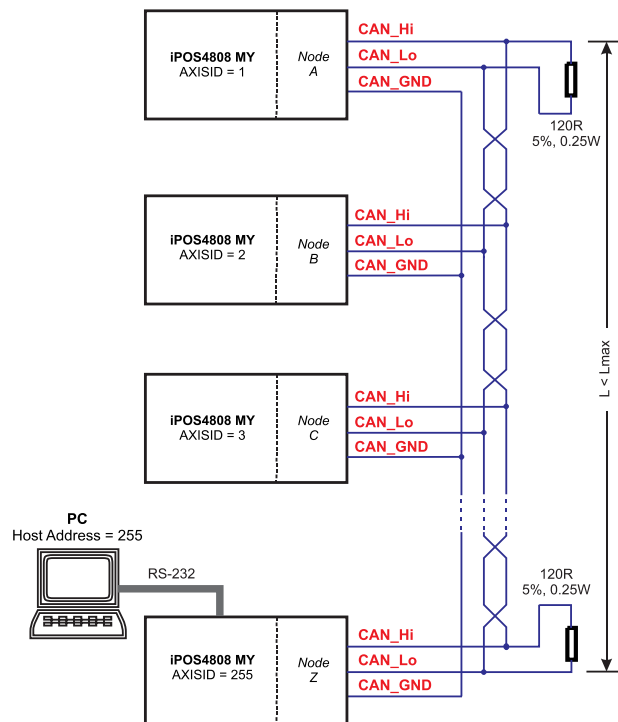

Figure 3.29. Multiple-Axis CAN network
1. The CAN network requires a 120-Ohm terminator. This is not included on the board. Figure 3.29 shows how to connect it on your network